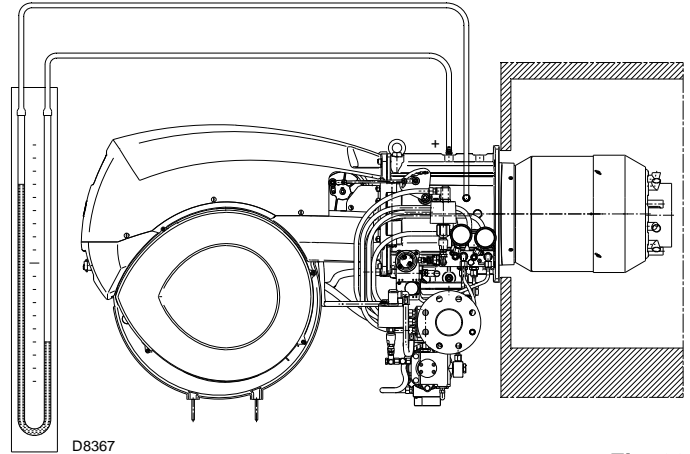

Fig. 33
- Fit a U-type manometer or a differential pressure gauge (Fig. 33), with the (+) fitting on the header gas pressure tap and (-) fitting in the combustion chamber. The manometer readings are used to calculate MAX. burner power using the Tab. K on page 25.
In this case increase gas firing delivery. The arrival of gas at the sleeve is indicated by the U-type manometer (Fig. 33). After burner firing a complete burner adjustment should be performed.